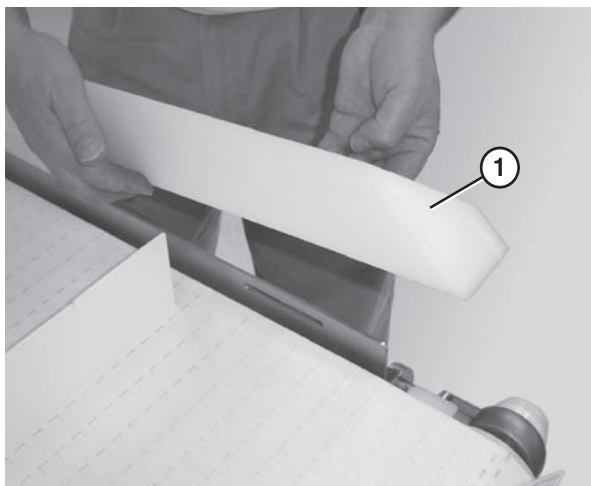

Figure 44
2. Remove the guide (**Figure 44, item 1**).